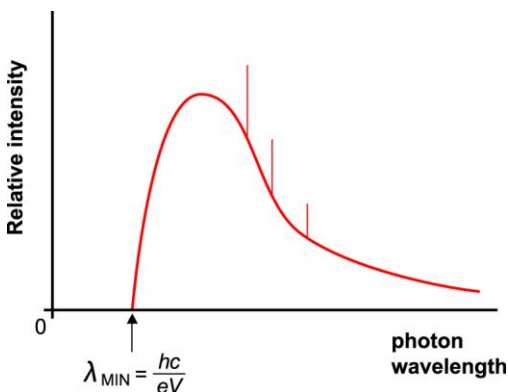

Figure 4 X-ray intensity v wavelength
- As the wavelength λ of a photon of frequency f is given by $\lambda = \frac{c}{f}$, an X-ray photon of frequency f_{MAX} has a wavelength $\lambda_{\text{MIN}} = \frac{c}{f_{\text{MAX}}} = \frac{hc}{eV}$ since $f_{\text{MAX}} = \frac{eV}{h}$. A graph showing the intensity distribution in terms of wavelength shows a continuous distribution from a minimum wavelength λ_{MIN} upwards, as shown in Figure 4.